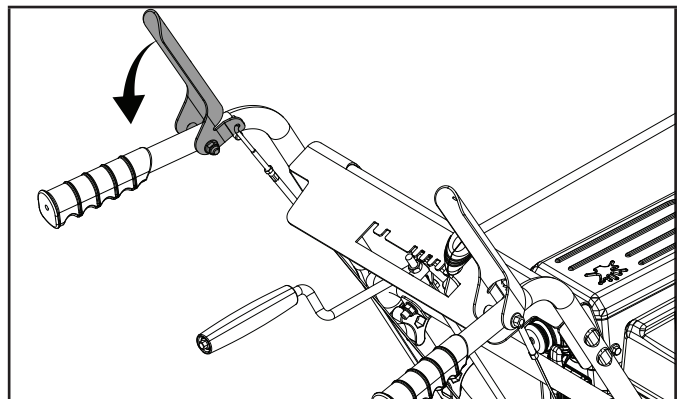

Figure 32
12. Pull the auger control handle to ensure the idler pulley is properly engaging the belt (Fig. 32). Under the belt cover area, make sure the distance on both sides between the guide and pulley is the same.